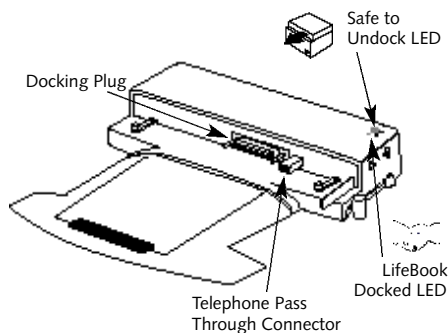

Figure 4-11 Mini-Docking Station Front View
11. Verify that docking is complete by checking that the LifeBook Docked LED  is illuminated. (See Figure 4-11.)